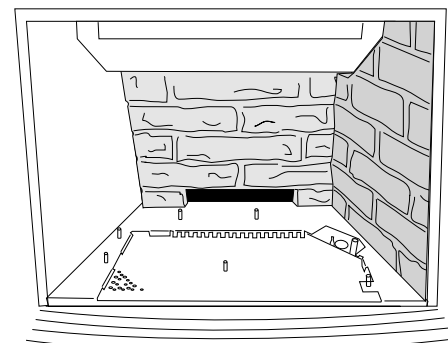

Figure 51. Install the Side Panels.
- 5. Install the Side Panels.** Tilt each panel, bottom edge first, into position against the side walls. The panels will stand on their own against the wall. Push them back against the Rear Panel. Fig. 51.